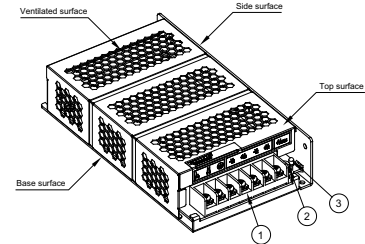

Figure 1 - Device Descriptions
2. Device description (Fig. 1)
3. Connection (Fig. 1)